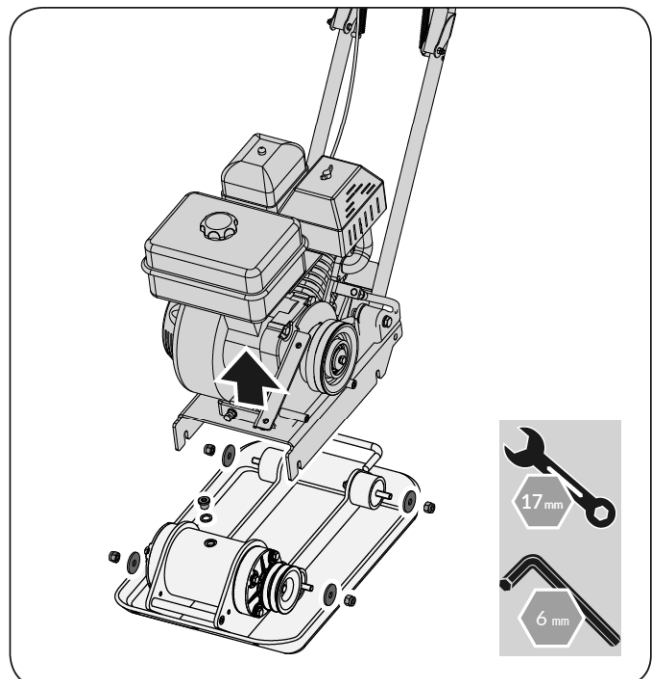

Figure 9a
3. Remove the bolts that hold the deck to the housing. (See Figure 9a)